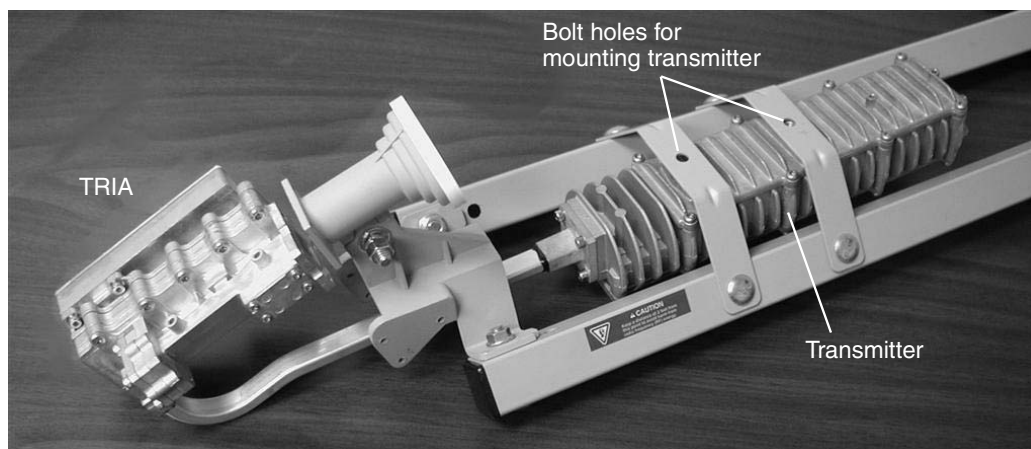

Figure 16: Radio assembly in position to be attached to feed arm
4. Position the feed arm so the transmitter mounting brackets rest on top of the transmitter, as shown in Figure 16.